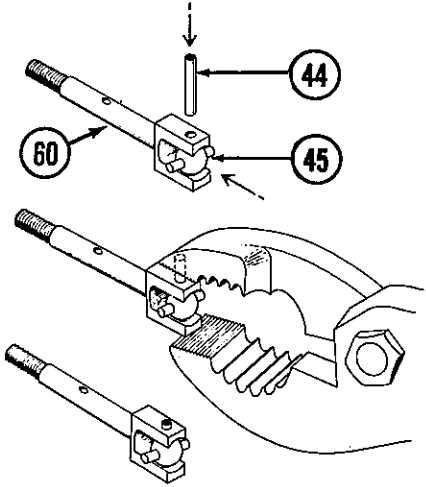

FIG. 24
11. Place universal pivot joint (45) in rear axle (60) so that cross pin hole is aligned vertically with holes in rear axle (60) U-joint. Fig. 24.
12. Using pliers, push a 3/32" x 1/2" spirol pin (44) through rear axle (60) yoke and through universal pivot joint (45) until pin (44) extends evenly out of both sides of rear axle (60) yoke. Fig. 24.